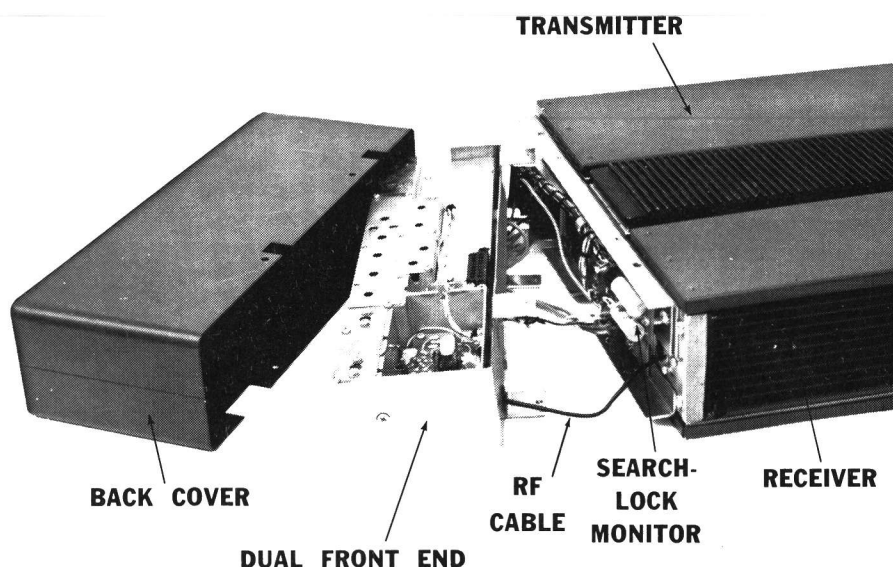

Figure 5 - Dual Front End Disassembly
2. Remove the four screws holding back cover to system frame. Slide cover back and lift off (see Figure 5).